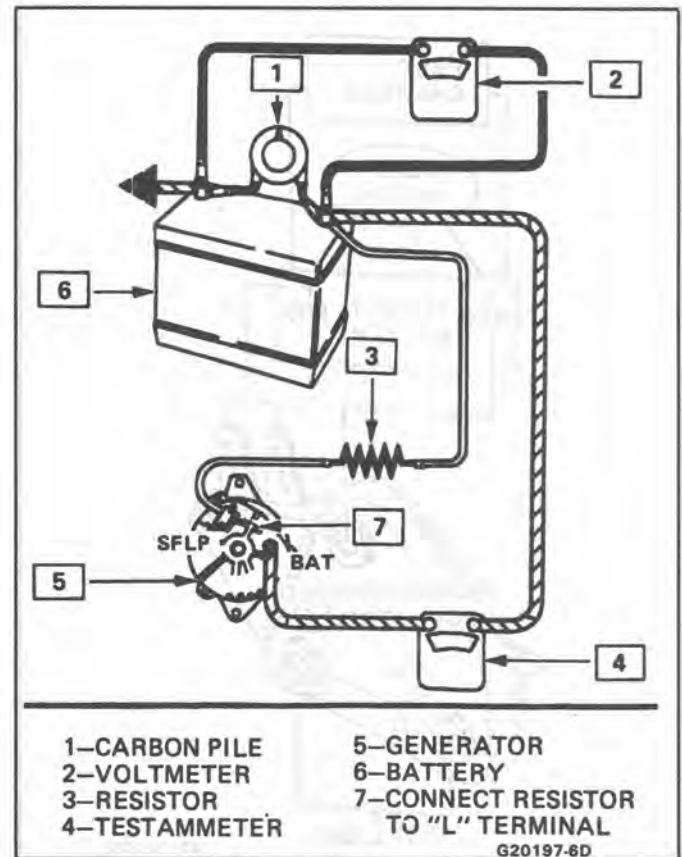

Fig. 1H Generator Bench Check - CS
1. Make connections as shown in Figure 1H, except leave the carbon pile disconnected. The ground polarity of generator and battery must be the same. The battery must be fully charged. Use a 30-500 OHM resistor between battery and "L" terminal.